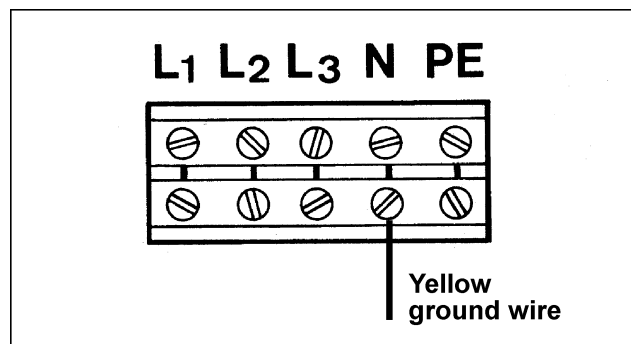

FIGURE 7
- Connect the three wires to the terminals L1, L2, L3. See Figure 7. If there is a neutral conductor (blue) it must be connected to the terminal N. Connect the ground wire (green) to the terminal marked with the ground symbol PE.